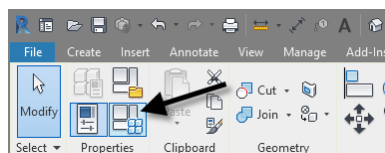

Figure 8
1. On the ribbon, click the Family Types button (see Figure 8).